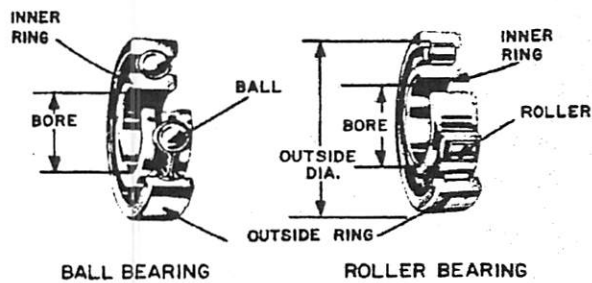

Fig. 1-8. Cutaway view of common types of antifriction bearings.
1.37 Bearings fit into either of two main categories. One, the **PLAIN BEARING** (see Fig. 1-7), is a solid surface on which a moving part slides or rolls. The second type is the **ANTIFRICTION BEARING** (see Fig. 1-8), which depends on races containing rotating balls or rollers to make contact
1.41 Antifriction bearings are so called because the friction developed in their operation is relatively low. That's because the load on the bearing is taken by the small contact area between the races and the ball or roller (see Fig. 1-8). Because the full load of the application is taken on small contact surfaces, the balls and rollers of antifriction bearings are made of hardened alloy steels, to provide the maximum resistance to wear and pressure.